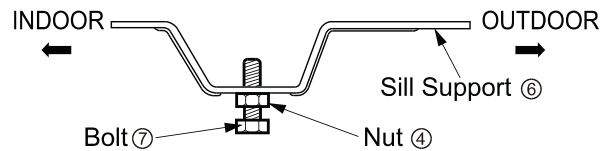

Fig. 3
3. Remove the White Styrofoam shipping block from the compressor. (Fig.3)
3. Loosely assemble the Sill Support ⑥ using the parts . (Fig. 3)